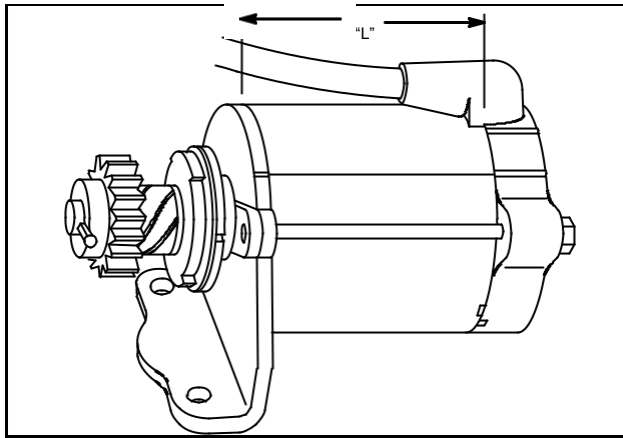

Fig. 688 – 120 VOLT AC STARTER MOTOR
- Note length of starter motor housing as shown in Fig. 688 and refer to Table No. 47 for specifications for motor being tested.